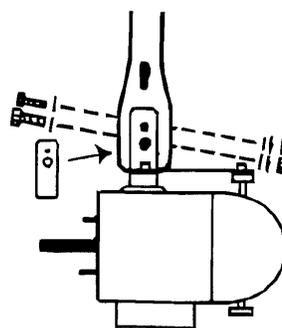

FIG. 3
- LWBO Models: Slide mounting shim over top of column and align holes. Assemble with 1/2" and 1/4" bolts, washers and nuts provided (Figure 3).
- C. Mount Rear Guard to bolt studs on motor. Assemble per drawing using 4 sets of washers, lock-washers, and nuts provided (Figure 3).